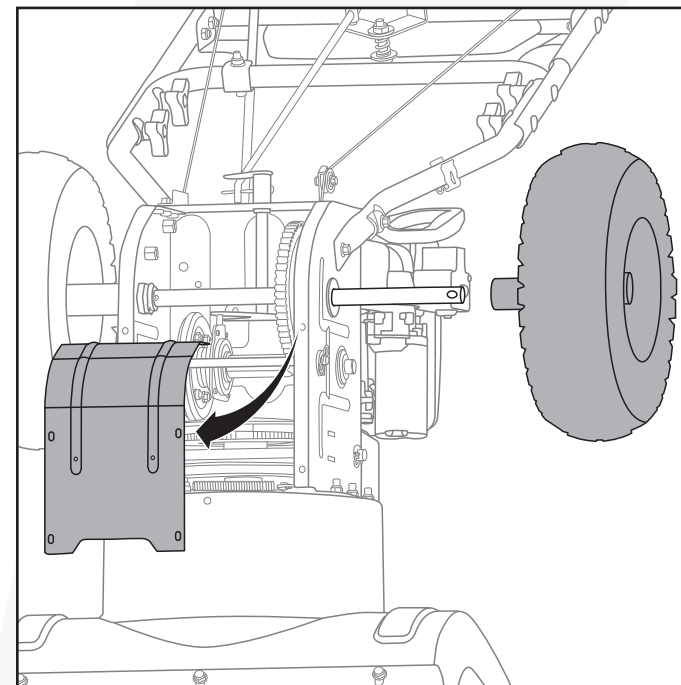

Fig. 20A
6. Remove the frame cover from the underside of the snow blower by removing the self-tapping screws that secure it. Remove the right wheel by removing the axle pin. (Fig. 20A)